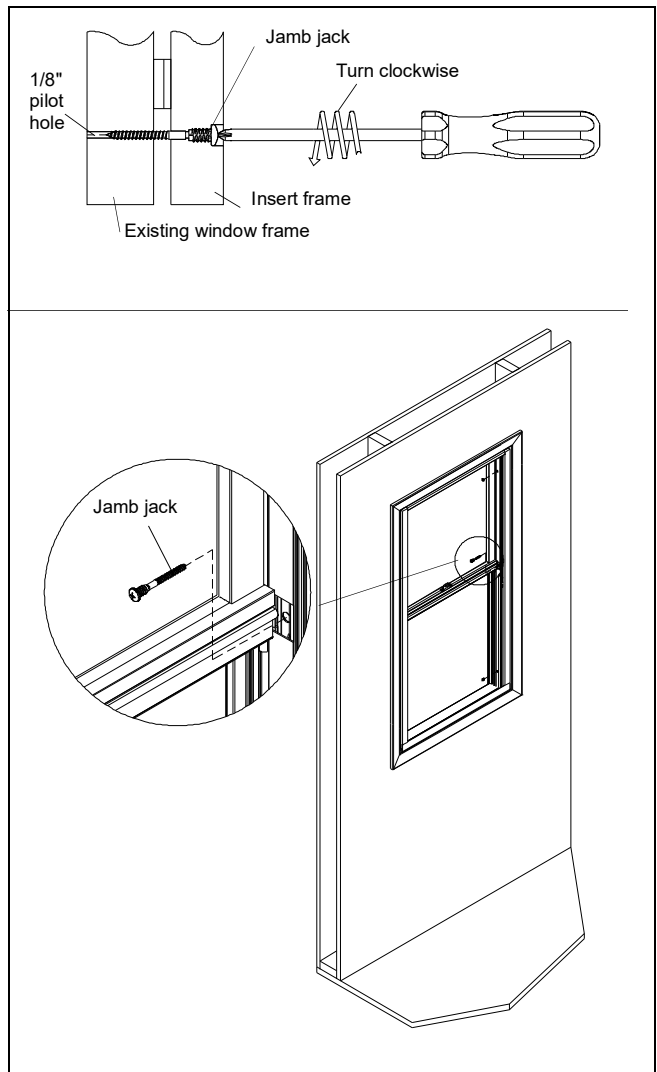

Figure 14
10. Using the pre-drilled holes in jambs at check rail as a guide, drill pilot holes in existing window jambs with a power drill and 1/8" drill bit. Insert jamb jacks in holes and drive until the jamb jack is firmly seated. See figure 14.